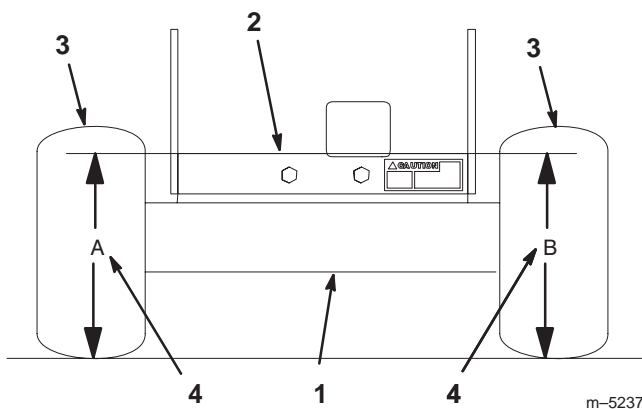

Figure 46
3. Measure engine deck height at location "A" (Fig. 46).
4. Measure engine deck height at location "B" (Fig. 46).